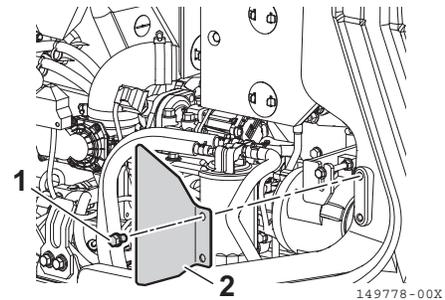

Fig. 8-52
2. Remove the two bolts (**Fig. 8-52, 1**) and guard (**Fig. 8-52, 2**).
9. When no abnormality is found on the belts and pulleys, reinstall the guard (**Fig. 8-52, 2**) and close the rear hood.